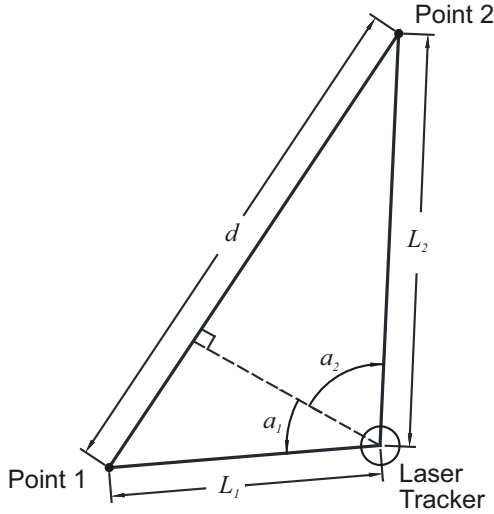

Figure 9-1 Laser Tracker Measuring Head Geometry
The geometrical arrangement of a Laser Tracker Measuring Head that measures the coordinates of points 1 and 2 is shown in Figure 9-1. From these coordinates, the length d is determined. The maximum permissible error (MPE) in this length measurement is the maximum error permitted by the performance verification
The angles  $a_1$  and  $a_2$  are positive in the directions shown in Figure 9-1 and negative in the opposite directions. The quantities  $e_{R1}$ ,  $e_{R2}$ ,  $e_{R0}$ ,  $e_{T1}$ , and  $e_{T2}$  are calculated using Equations (1) - (3). The subscript 1 refers to path 1 and the subscript 2 refers to path 2. So, for example,  $e_{T1} = 36\mu m + L_1 \cdot 6\mu m/m$ . The quantities  $E_{TEMPR1}$ ,  $E_{TEMPR2}$ ,  $E_{TEMPT1}$  and  $E_{TEMPT2}$  are calculated using Equations (4) and (5). The quantity  $\Delta T_{AVE}$  in Equation (4) is the average temperature of the air through which the laser beam passes minus the temperature of the air at the air temperature sensor. For a laser beam that travels through path 2,  $E_{TEMPR2} = L_2 \cdot (\Delta T_{AVE2}/^{\circ}C) \cdot (1\mu m/m)$ . The quantity  $(\partial T/\partial x)_{EFF}$  in Equation (5) is the maximum effective thermal gradient in the direction